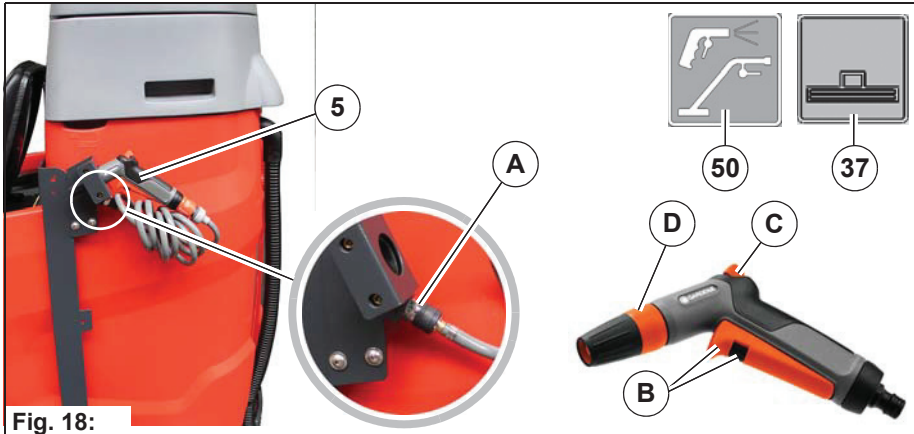

Fig. 18:
- Connect the hose to the water connection of the machine **Fig. 18-A**.